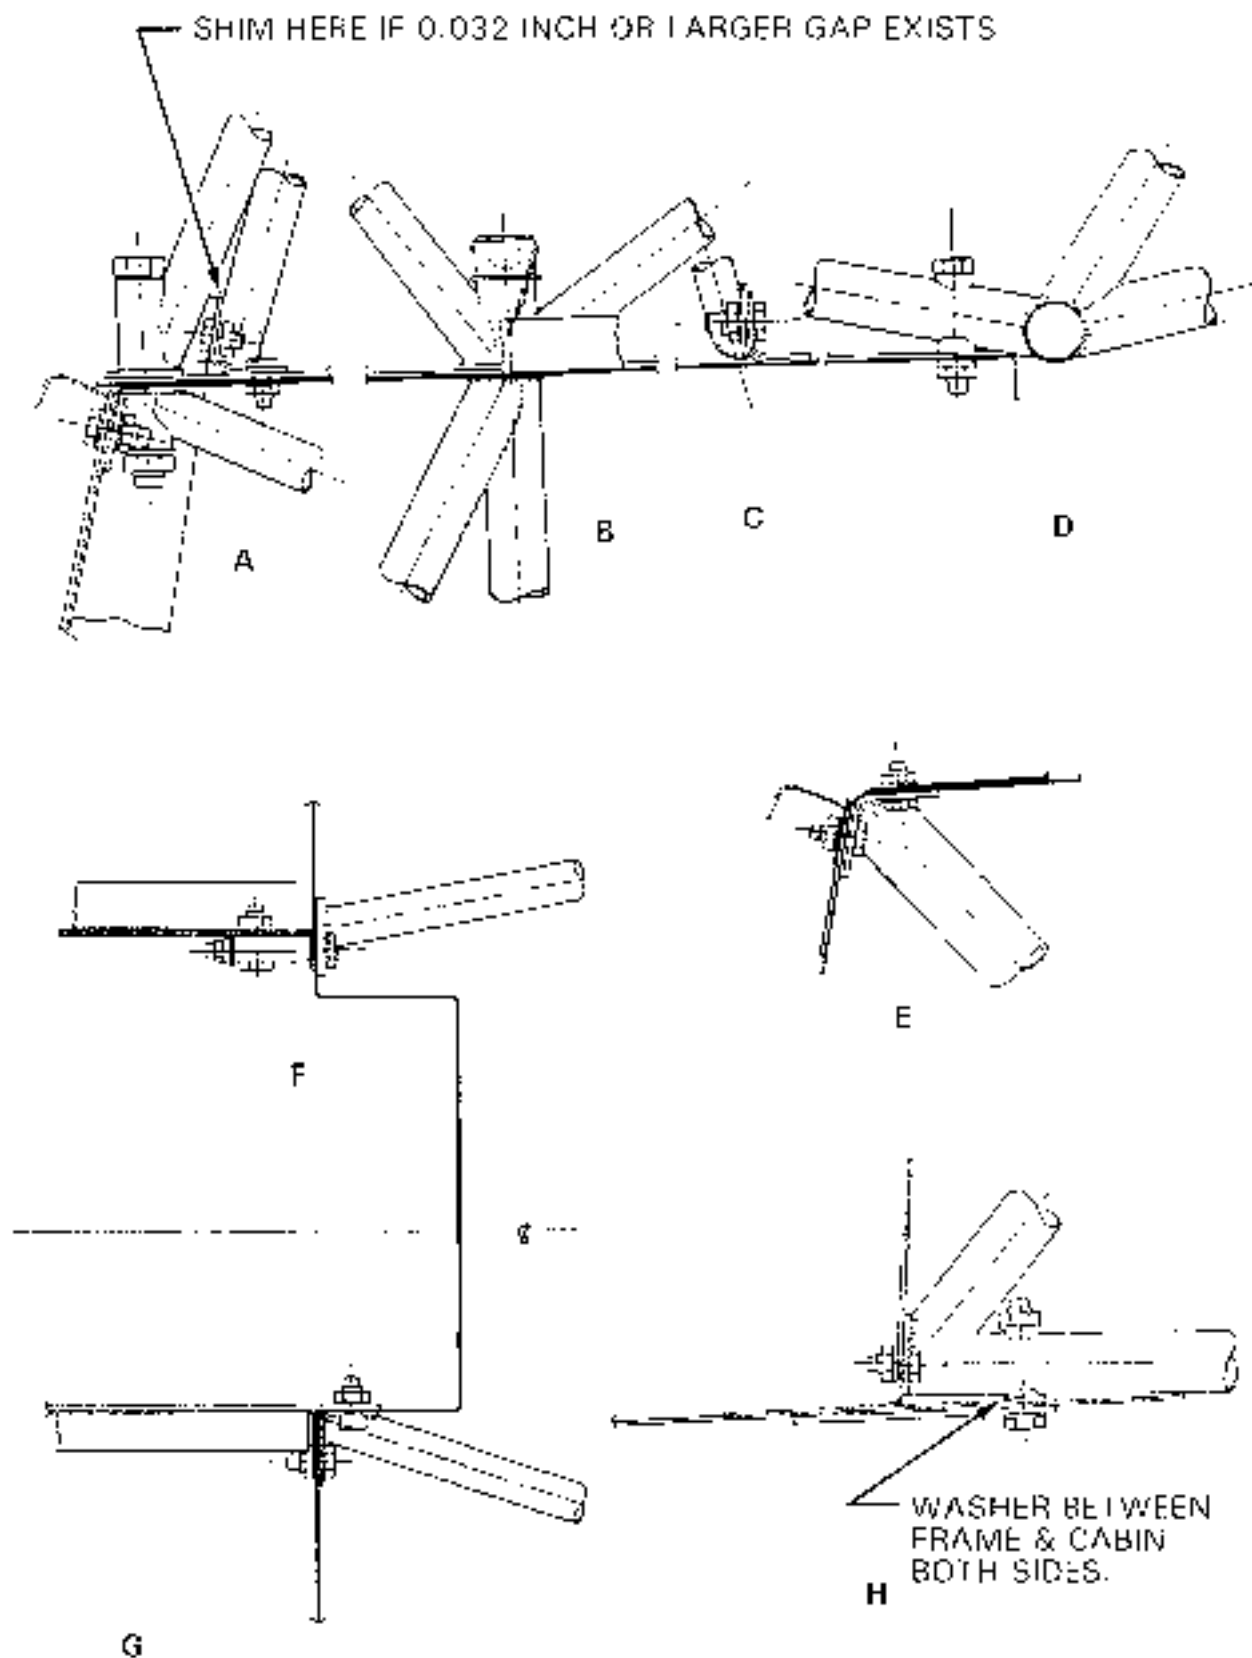

FIGURE 4-1 FRAME-TO-CABIN ATTACHMENTS
The outboard support of the frame requires a washer between the frame and the fuselage skin. (See Fig. 4-1 View H)
- f) Measure gap on the upper frame. Shim as required (see Fig. 4-1 View A).
- g) Install the four attaching bolts in forward support. Do not install washers under the two B238-1 bolt heads in the push-pull tube tunnel. Torque the four bolts to 40 in.-lb plus nut drag (see Fig. 4-1 View A).